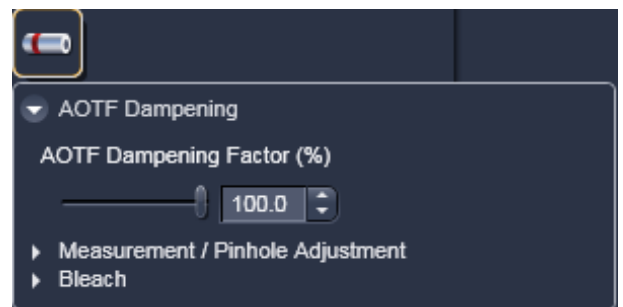

Fig. 9-26 AOTF Dampening panel
- Press the **AOTF Dampening** tab to display the AOTF Dampening control panel (Fig. 9-26). Press again to close the panel